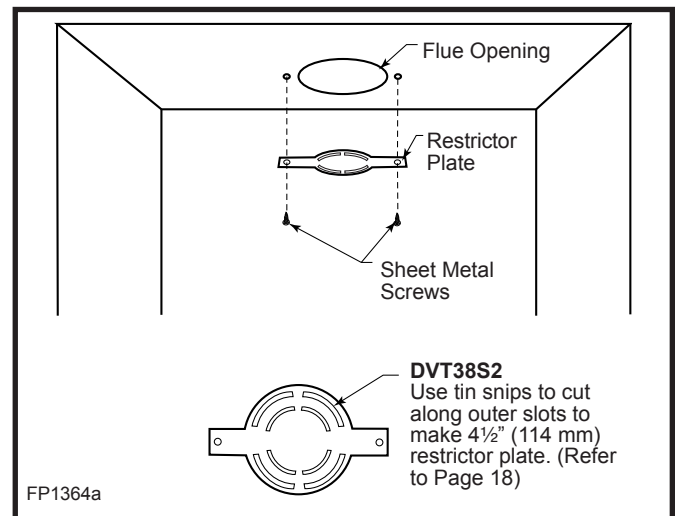
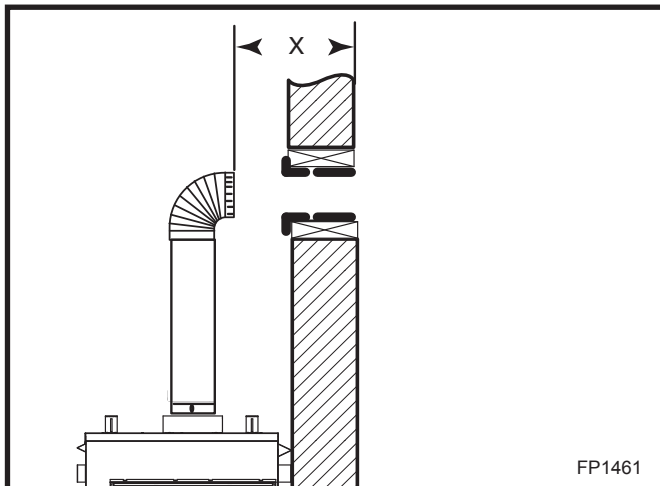

Fig. 29 Restrictor plate location.
Fig. 30 Flue restrictor plate use in straight up installation.
Using the two (2) screws provided along with the flue restrictor plate shipped with the logset, fasten the restrictor plate to the firebox top through the front of the unit. (Fig. 29)
For vertically venting either propane or natural gas units, with vertical vent heights of 12' (3.7 m) or greater, (measured from the top of the flue collar) the flue restrictor plate as supplied with this unit should be used. (Fig. 30) Refer to Figure 29 for flue restrictor plate installation.